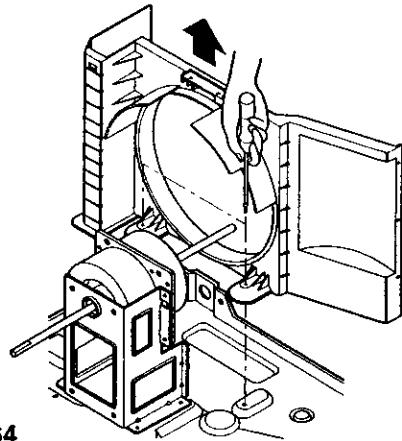

Figure 64
3. Remove the shroud. (See Figure 64)